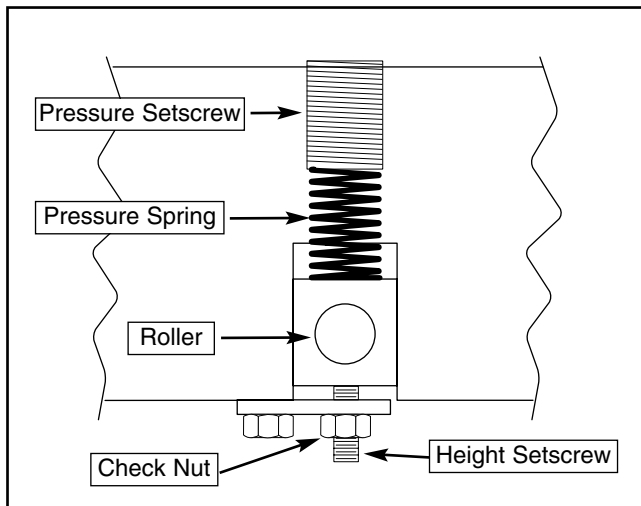

Figure 42. Roller pressure assembly.
4. Remove the springs that are in the setscrew holes. See **Figure 42**.
7. Screw the light pressure setscrew (**Figure 42**) until it is approximately $\frac{1}{4}$ " above the head casting. The feed chain applies additional tension to the right side of the outfeed roller, so the pressure added by the setscrew need not be as high.